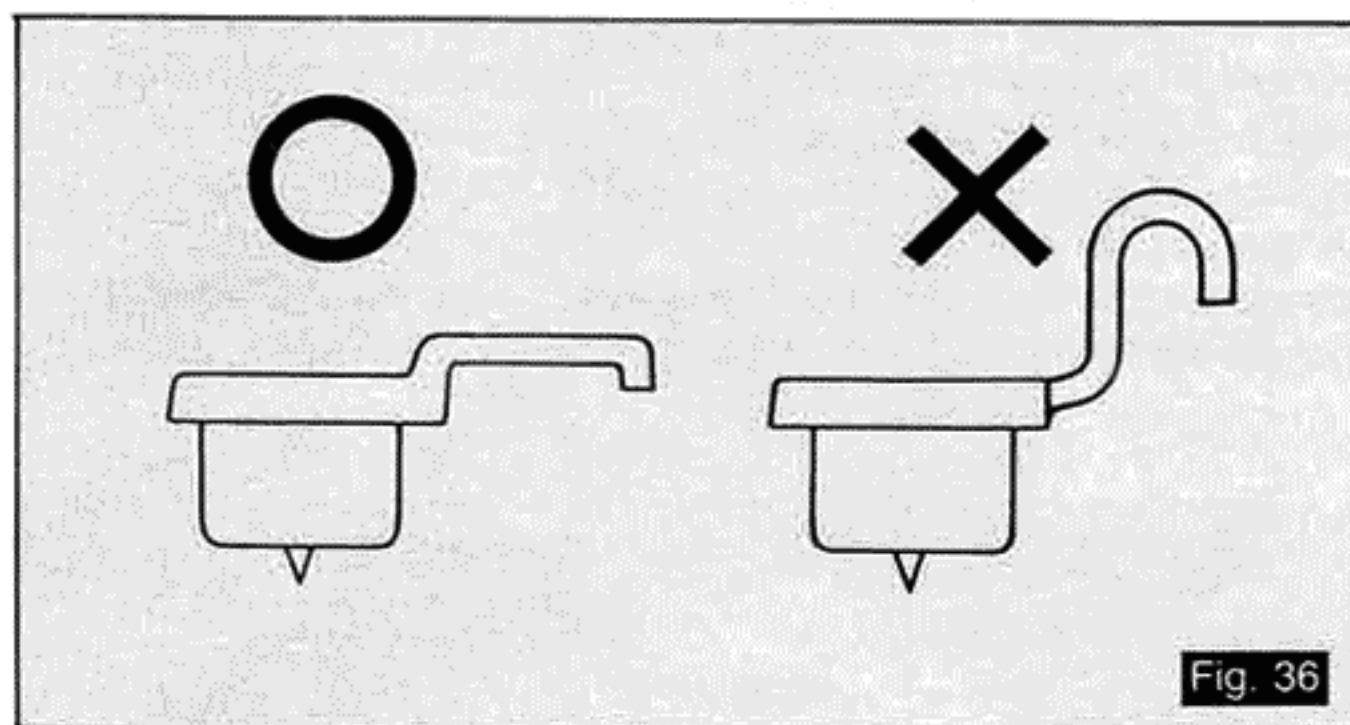

Fig. 36
**③ When using other headshells, make sure about the headshell configuration. (See Fig. 36).**